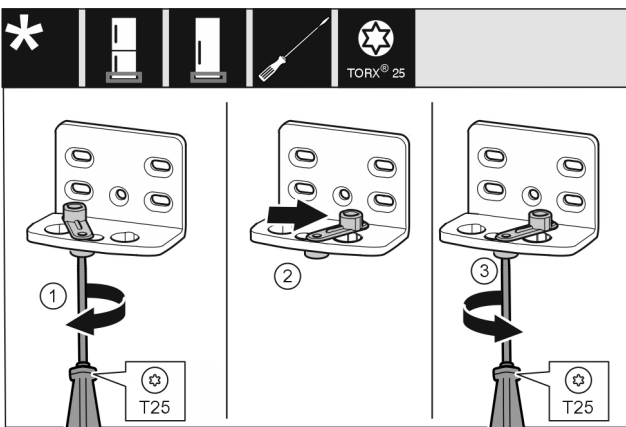

Fig. 11
- ▶ Loosen the screw using a T25 screwdriver. Fig. 11 (1)
- ▶ Lift the door closing aid and turn it 90° to the right in the hole. Fig. 11 (2)
- ▶ Tighten the screw using the T25 screwdriver. Fig. 11 (3)